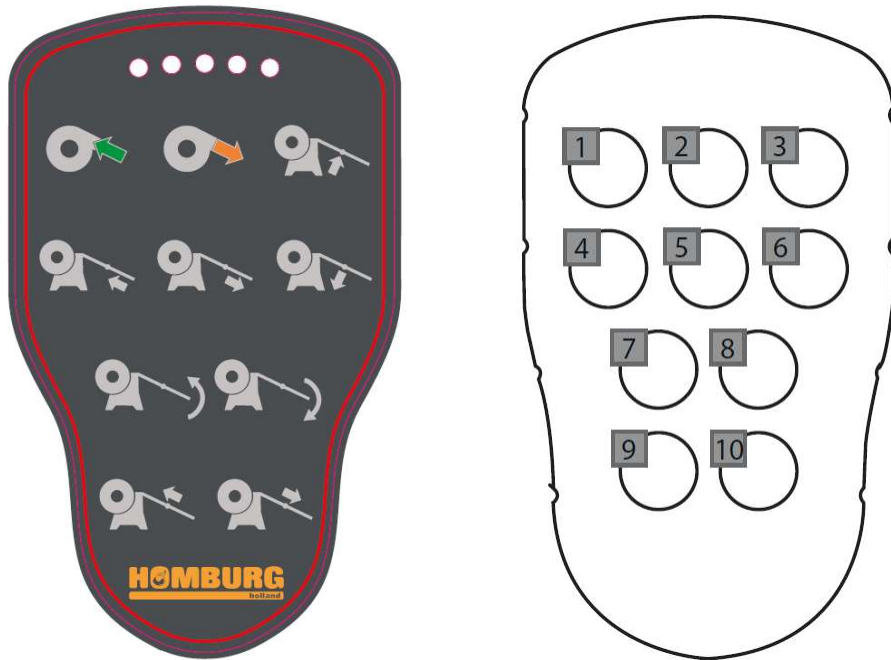

Figure 17 - Wireless remote control
In combination with a water valve or HDD, the machine is mounted with a different remote control. Here, buttons 9 and 10 have been changed to the following functions. See figure 17.
14. Bring the guide arm into a stretched horizontal position with the wireless remote control (figures 17 and 18).